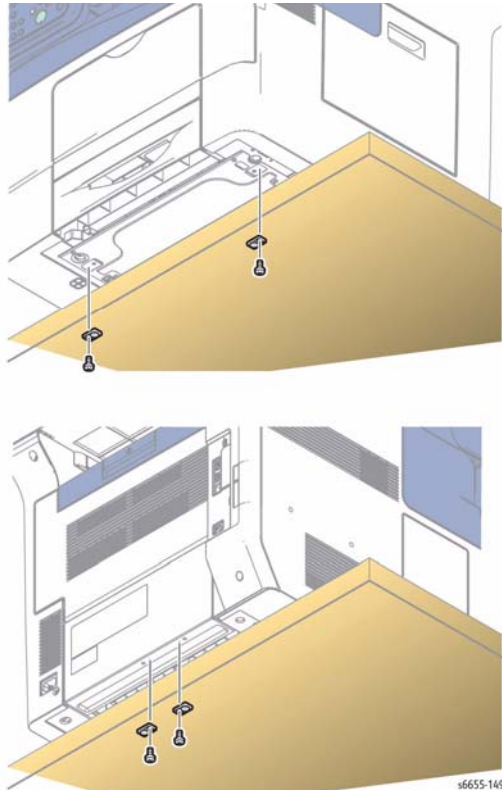

Figure 1 Replace the Bottom Feet
4. Refer to Figure 1 to locate and remove the screws (silver, 6 mm) that attach the Bottom Feet on the rear, and replace the feet.